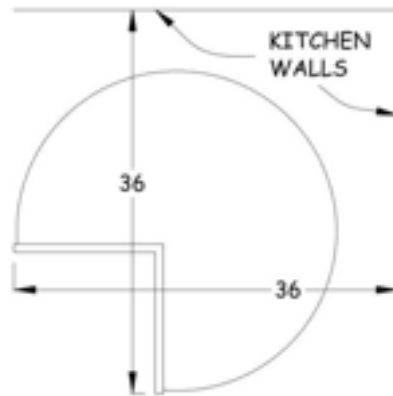

Figure 17-2. Corner Cabinet Installation
3. Set the corner lazy susan unit in place with the faces 36" from each wall (see Figure 17-2).